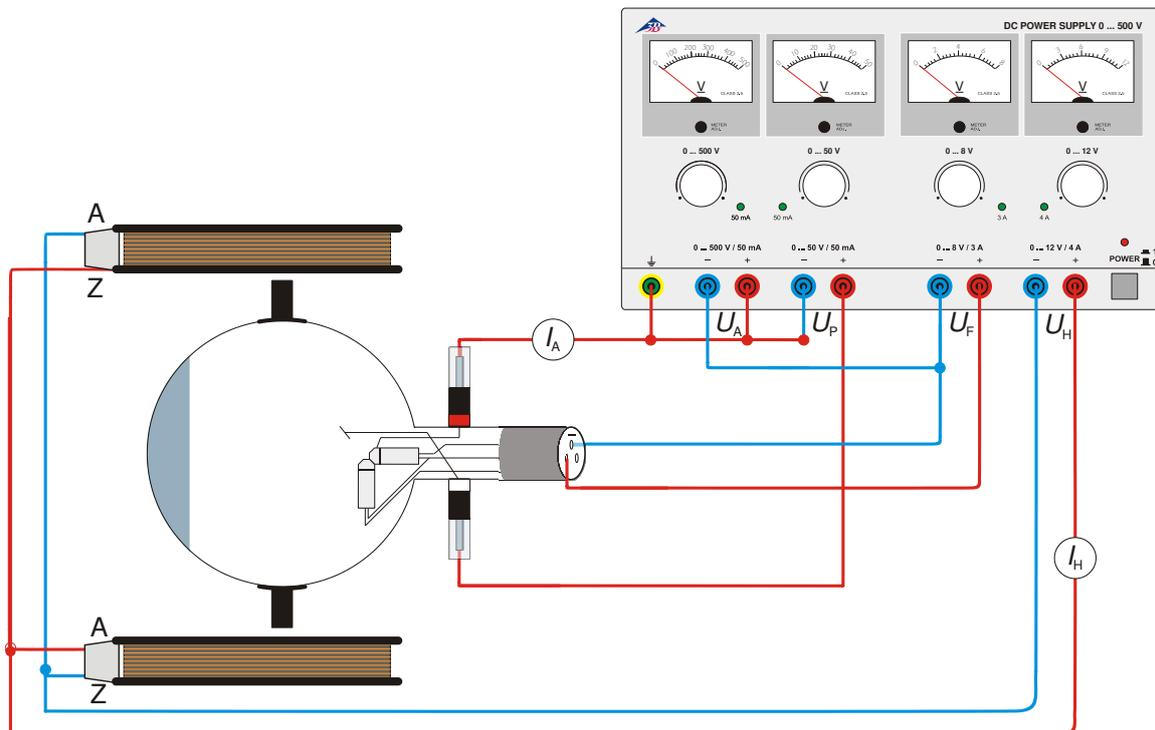

Fig. 4 Determining e/m using the axial electron gun
- Connect up the tube as in Fig. 4.